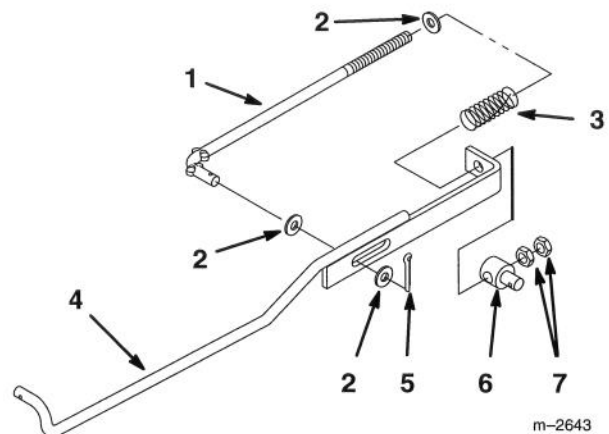

Figure 2
1. Slide a 11/32" (9 mm) washer and brake spring onto threaded end of spring rod (Fig. 2). Place threaded end of spring rod into hole in brake rod capturing brake spring (Fig. 2).
2. Slide a 11/32" (9 mm) washer onto formed end of spring rod, then place formed end into slot in brake rod (Fig. 2). Place second washer on formed end and secure with cotter pin (Fig. 2).
3. Slide trunnion onto threaded end of spring rod and loosely retain with (2) 5/16"-18 (8 mm) jam nuts (Fig. 2).